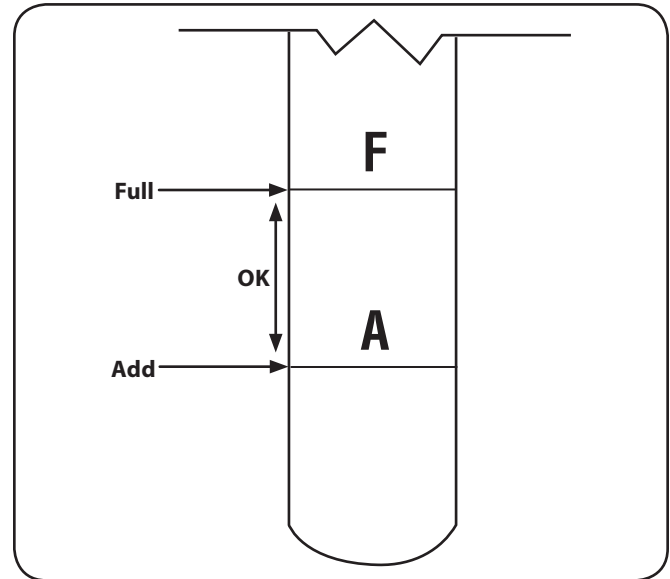

Figure 6-2
- Remove the dipstick and check the level. See Figure 6-2.
7. Remove the oil fill plug/dipstick from the oil fill port and SLOWLY pour oil into the oil fill port. Fill the transmission case until the oil level reaches the "FULL" mark on the dipstick. Refer to Figure 6-2.